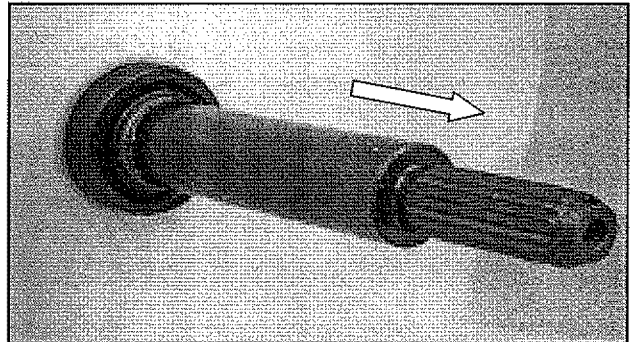

FIGURE 8
12. Tip washer forward off the hoses and remove drive shaft and seal from tub. See Figure 8.